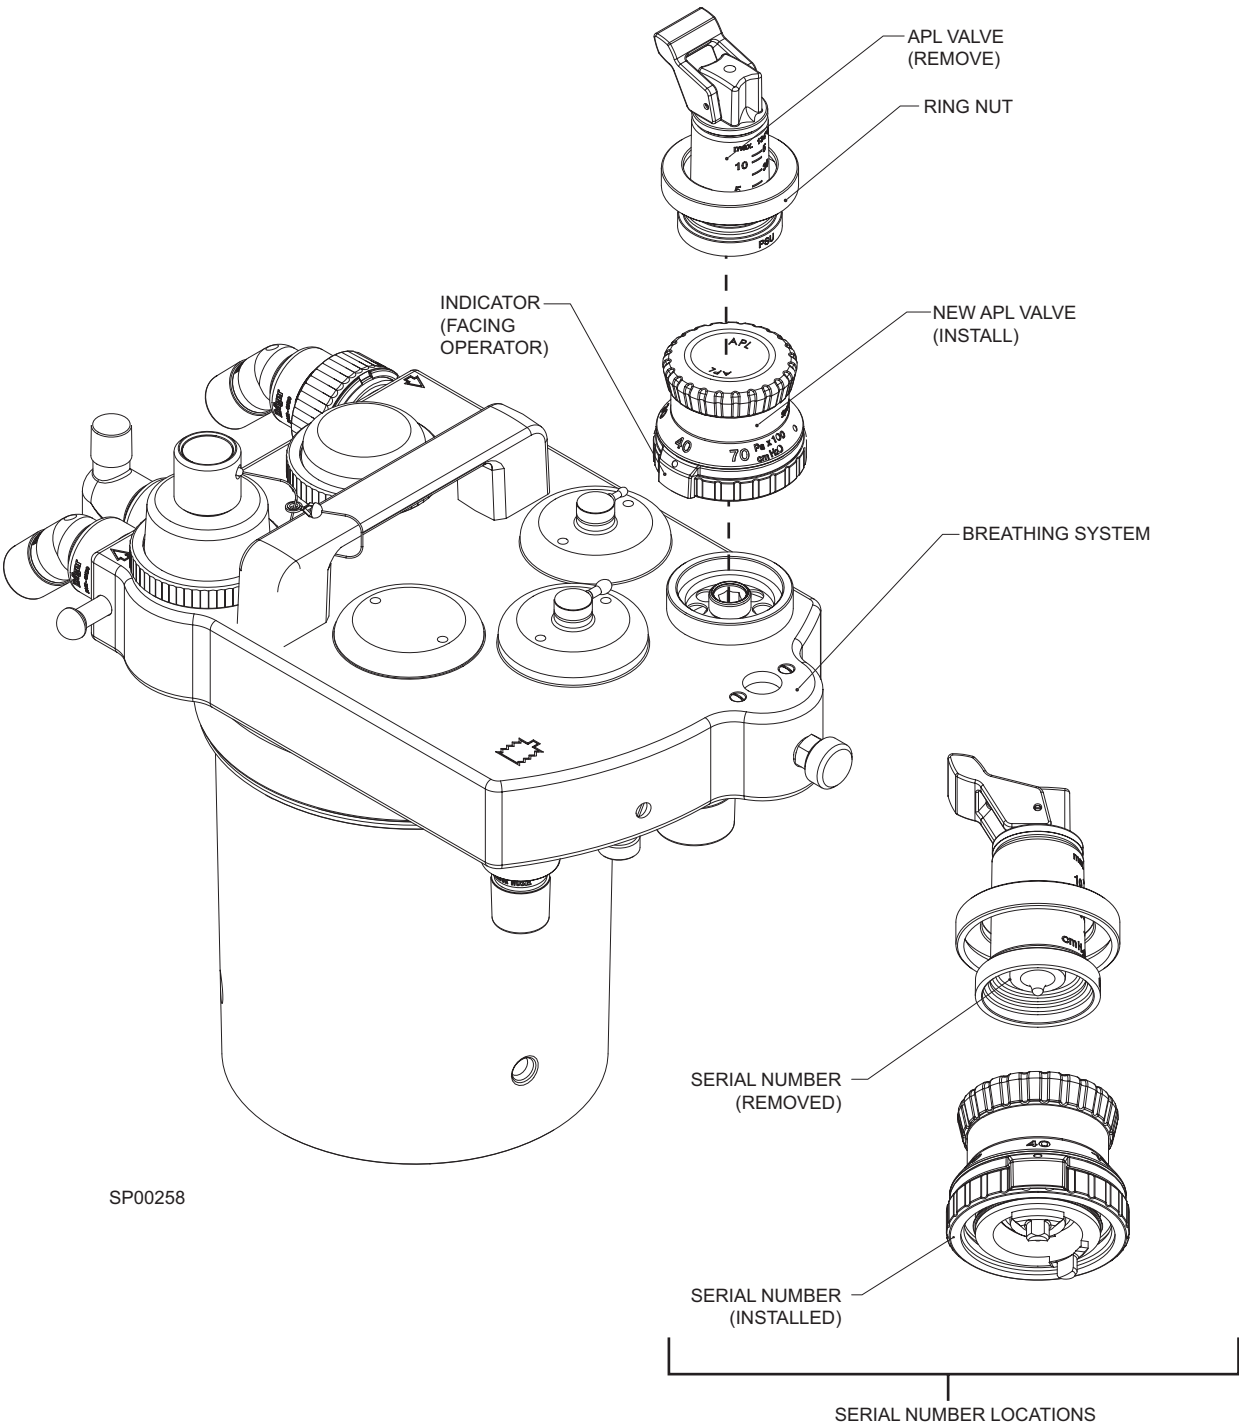

FIGURE 1. APL Valve Replacement
3. Record the serial number of the original APL Valve and replacement APL Valve for subsequent documentation step. See Figure 1 for serial number locations.
4. Install new APL Valve (P/N MK00625) securely into place with the retaining nut so that the pressure setting indicator is facing the Fabius GS operator. See Figure 1.